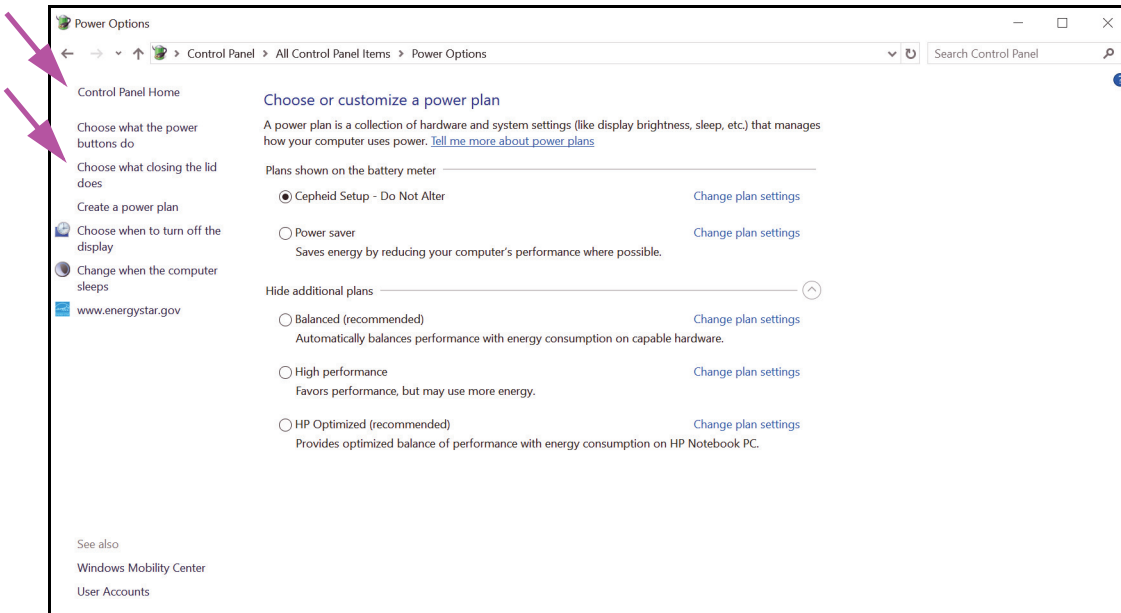

Figure 2-10. Power Options Window
9. Click **Cancel** to close the Edit Plan Settings window. The Power Options window appears (see Figure 2-10).